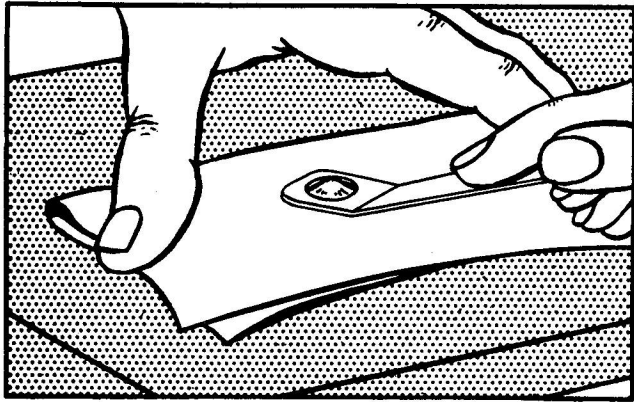

Figure 3-1. Use of a Ball Chaser
(1) Dismantle the bearing by pushing the center, fibre retainer out from the outer race. The balls may then be removed from the fibre ring.
(2) Rinse each ball in cleaning solvent 3-GP-8 using tweezers. Shake off excess solvent.
(3) Place each ball in turn between two folds of clean longcloth (approximately 3 by 6 inches) placed over a sponge rubber or felt pad.
(4) While holding the cloth taut encircle the ball with a ball chaser and polish the ball by stroking the ball chaser back and forth 20 to 25 times. (See figure 3-1.)
(5) Examine the ball through a 10 power eye loupe for any defects such as rust, scratches and flat spots. If a ball is found defective discard the entire rotor bearing, as separate parts are not replaceable.
(6) Clean and inspect the outer race similarly; polish with longcloth.
(7) Clean and inspect the fibre retainer carefully as it is the most vulnerable point of wear in the bearing. If the inner or outer races (or retainers) are found defective, the entire bearing must be replaced.
(8) To lubricate, first thoroughly coat the balls and repack the races with 3-GP-683a, grease. The amount of grease necessary for lubricating and coating the entire bearing would amount to a ball about 1/4 inch in diameter.
(9) Reassemble by first placing the balls in the fibre retainer. Then press the fibre retainer firmly into the outer race, and check for smoothness and freedom. There should be no stickiness or binding.
(10) Care must be exercised to insure the replacement of each rotor bearing into its original recess in the gyro case or cover.